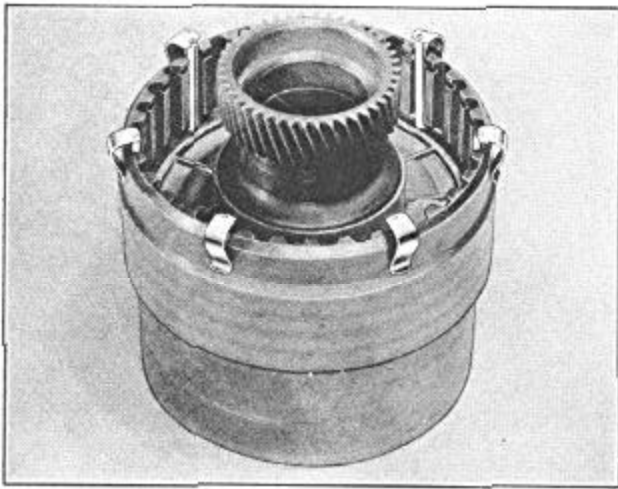

FIGURE 122
2. Position the Clutch Piston Installing Pins J-5487 in the grooves of the drum as shown in Figure 122.